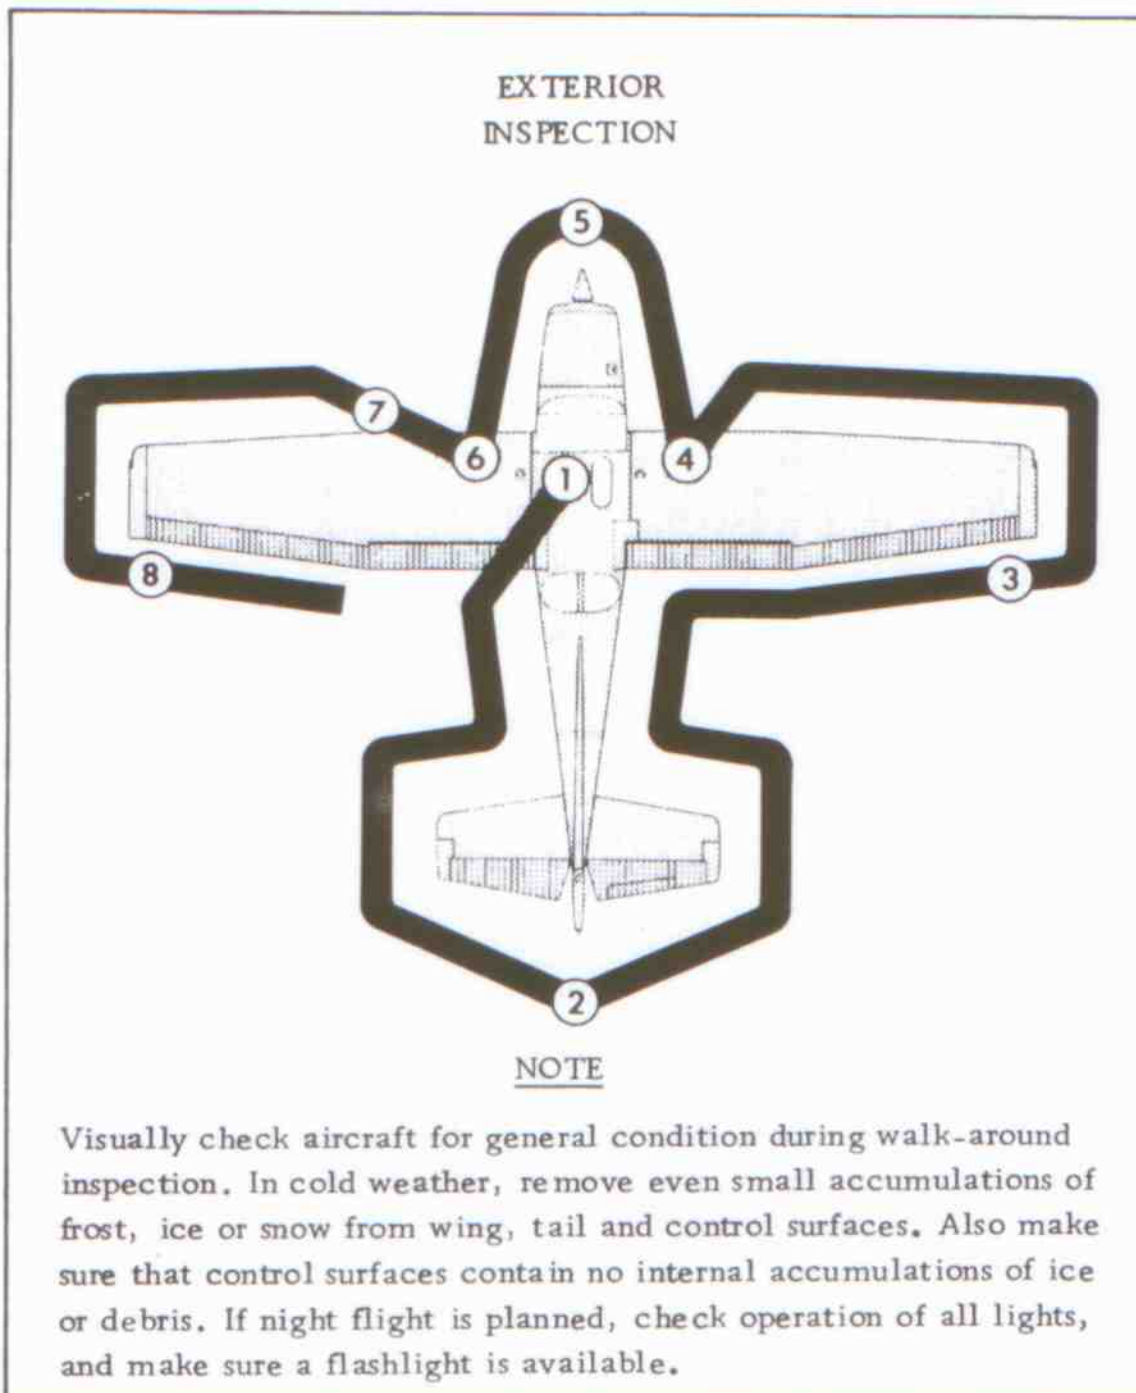

Figure 7
- (1) Make an exterior inspection in accordance with figure 7.